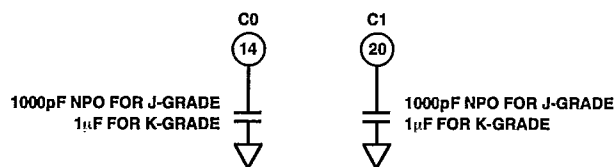

Figure 18. AD1849 External Filter Capacitor Connections
Figure 18 illustrates signal-path filtering capacitors, C0 and C1. Note that the values recommended here for the *J-Grade* AD1849, 1000 pF NPO, will increase to 0.1 µF for the *K-Grade* AD1849. Make plans for the PC board layout to accommodate the larger capacitor value. *The AD1849J must use 1000 pF capacitors; the AD1849J silicon will not perform properly with 0.1 µF capacitors. The AD1849K must use 0.1 µF capacitors; the AD1849K silicon will not perform properly with 1000 pF capacitors.*
- The Analog Devices *K-Grade* AD1849 uses two external capacitors to complete its internal input filter as shown in Figure 18. The CS4215 calls the two pins on the AD1849 for these capacitor connections, "no connects." By laying out a board with these capacitors, either chip will work.
- Related to the above, the Analog Devices *J-Grade* AD1849 uses two external capacitors to complete its internal input filter as shown in Figure 18. The CS4215 calls the two pins on the AD1849 for these capacitor connections, "no connects." By laying out a board with these capacitors, either chip will work.